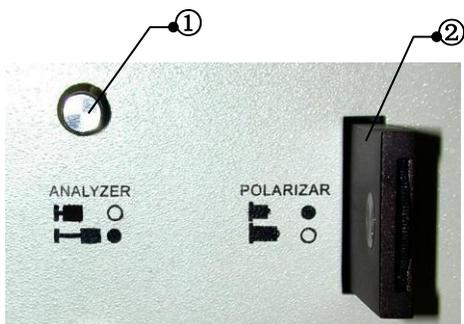

Fig.6
“**■** ○ ” .See fig.6.
4. Push the analyzer push rod ① in, mean is analyzer out of optical path. Like the mark “O ” . Push the polarizer push rod ① out, mean is polarizer out of optical path. Like the mark “ ” .See fig.6.